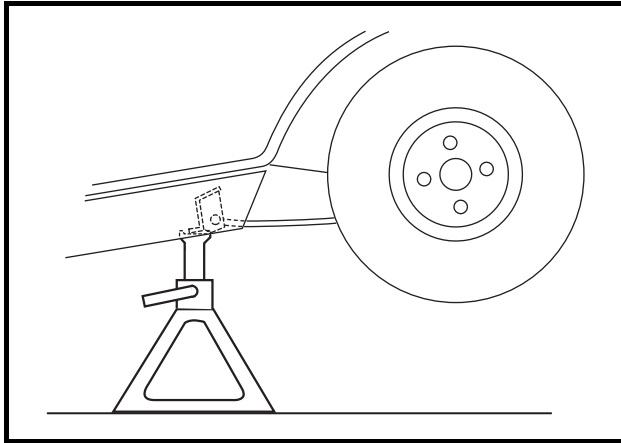

Figure 23-6 Vehicle Supported on Jack Stands
2. Place a floor jack under the transaxle and raise the rear of the vehicle. Position jack stands under the frame crossmember between the spring mount and the side stringer, just forward of each rear wheel. Lower the vehicle to let the jack stands support the vehicle (**Figure 23-6, Page 23-5**). **See WARNING “Lift only one end of the vehicle...” in General Warning, Section 1, Page 1-1.**